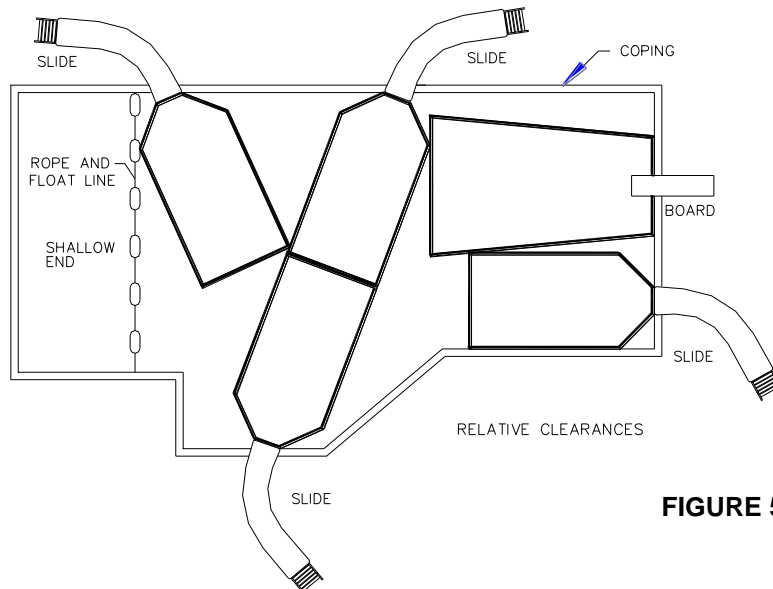

FIGURE 5
- B. The minimum clearance area of a slide or diving board shall not intersect any coping or rope and float line as shown in FIGURE 5. The minimum clearance area of a slide or diving board may intersect each other provided that they are not used simultaneously.